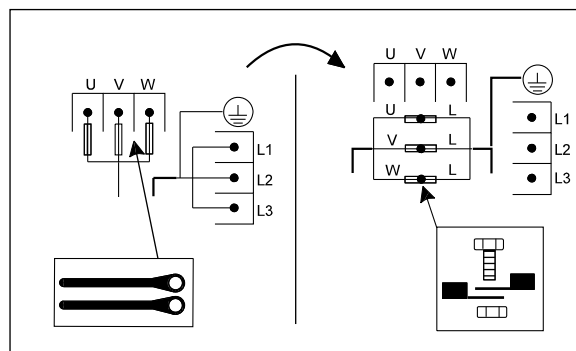

Fig. 41 How to switch an E-pump from normal operation to emergency operation
3. Connect the conductors as shown in fig. 41.